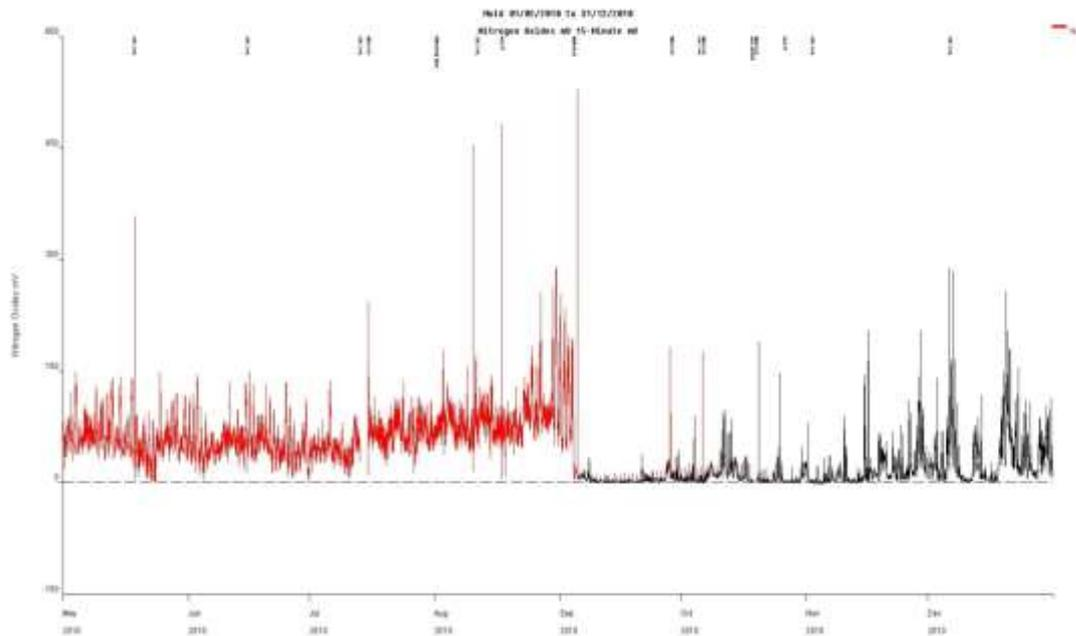
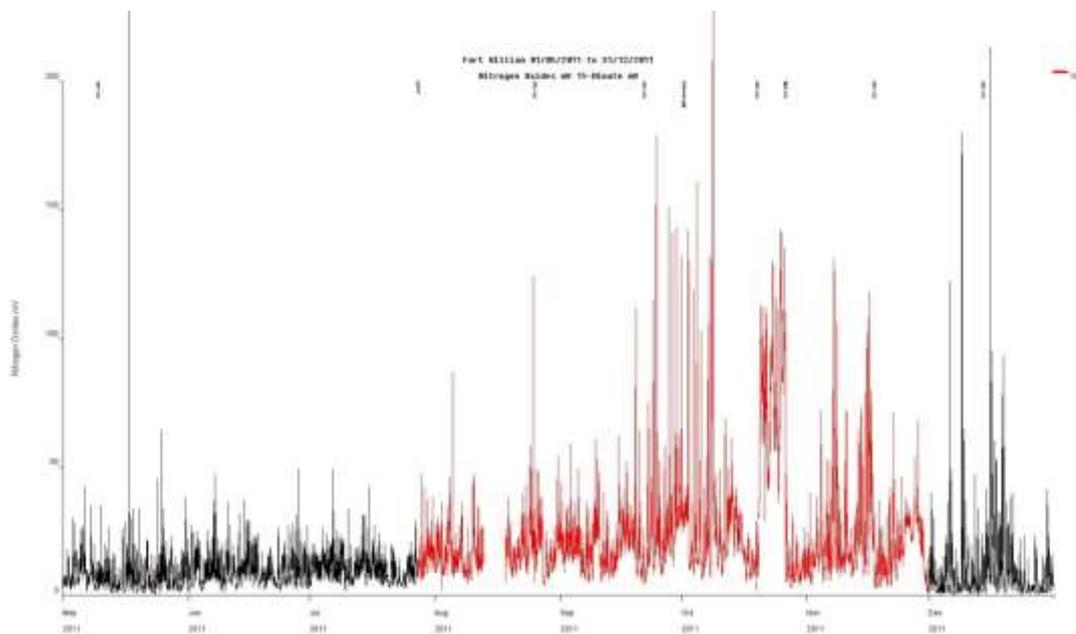

Figure 24-1 Examples of internal sampling
Figure 24-2 Further examples of internal sampling
- Figure 24-1 and Figure 24-2 - examples of internal sampling